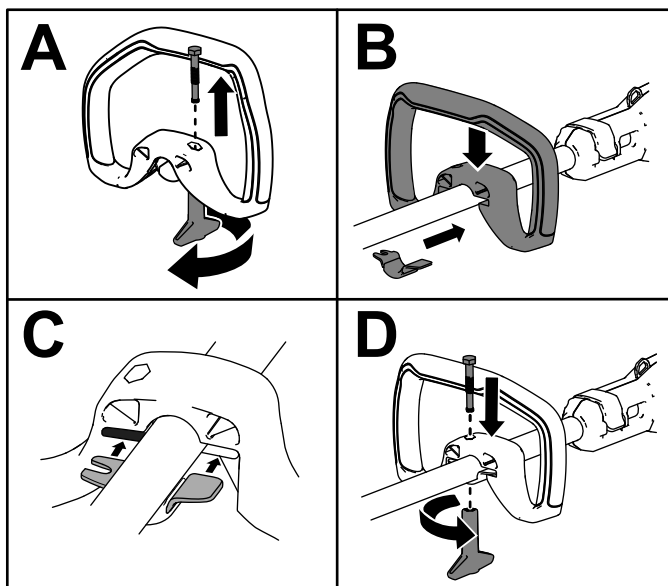

Figure 8
1. Separate the auxiliary handle from the handle bracket by unscrewing the handle-lock knob and removing the bolt (A of Figure 8).
2. Align the handle bracket with the auxiliary handle (B of Figure 8).
3. Slide the handle bracket into the slot on the auxiliary handle (C of Figure 8).
4. Secure the lower handle bracket to the auxiliary handle with the handle-lock knob and the previously removed bolt (D of Figure 8).